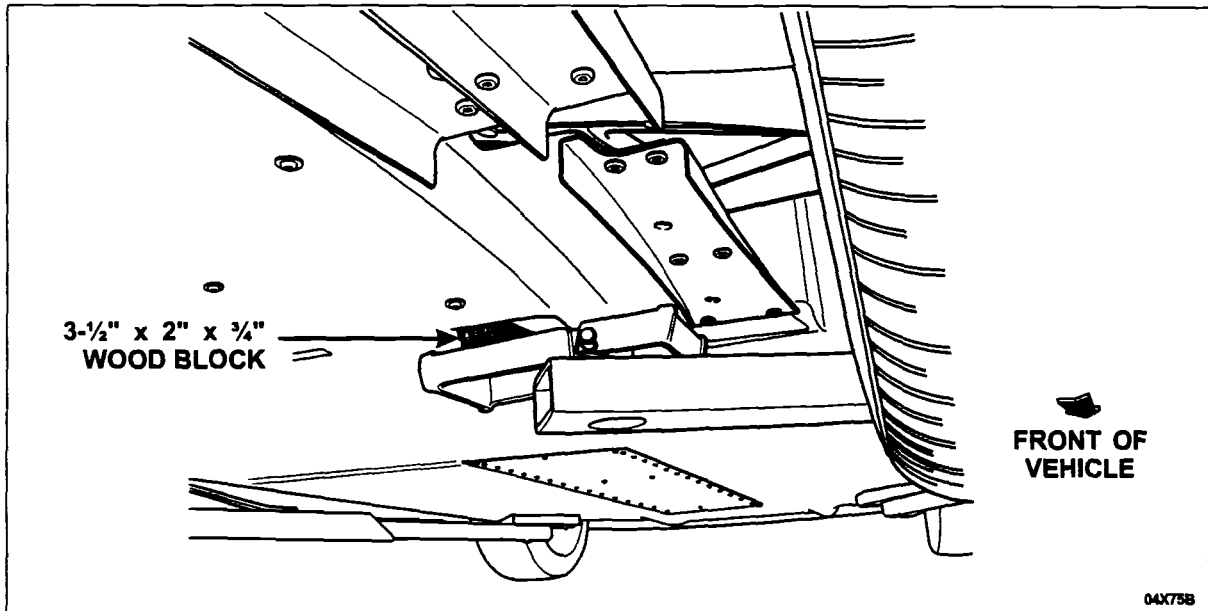

FIGURE 2
3. To avoid damage or marring of the underbody shields, position wood blocks measuring 3- $\frac{1}{2}$ " x 2" x $\frac{3}{4}$ " on the rear hoist pads and either thick cloths, rubber pads or heavy cardboard on the front hoist pads. Be sure to properly position the hoist pads as indicated. See Figure 2.